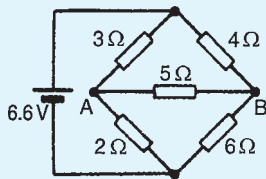

Figure 13.52
- For the bridge network shown in Fig. 13.52, find the current in the $5\ \Omega$ resistor, and its direction, by using Thévenin's theorem. [0.153 A from B to A]